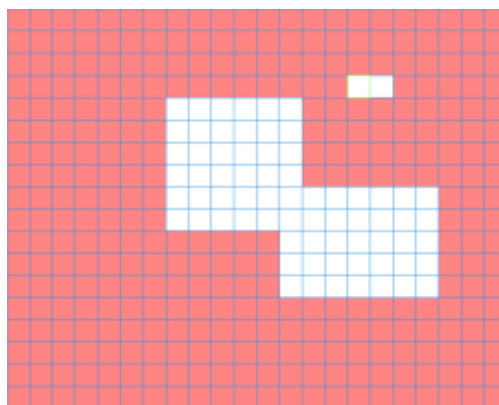

Figure 4-44
- Region: Click select button, the interface is shown as in Figure 4-44. Here you can set motion detection zone. There are 396(PAL)/330(NTSC) small zones. The green zone is current cursor position. Grey zone is the motion detection zone. Black zone is the disarmed zone. You can click Fn button to switch between the arm mode and disarm mode. In arm mode, you can click the direction buttons to move the green rectangle to set the motion detection zone. After you completed the setup, please click ENTER button to exit current setup. Do remember click save button to save current setup. If you click ESC button to exit the region setup interface system will not save your zone setup.